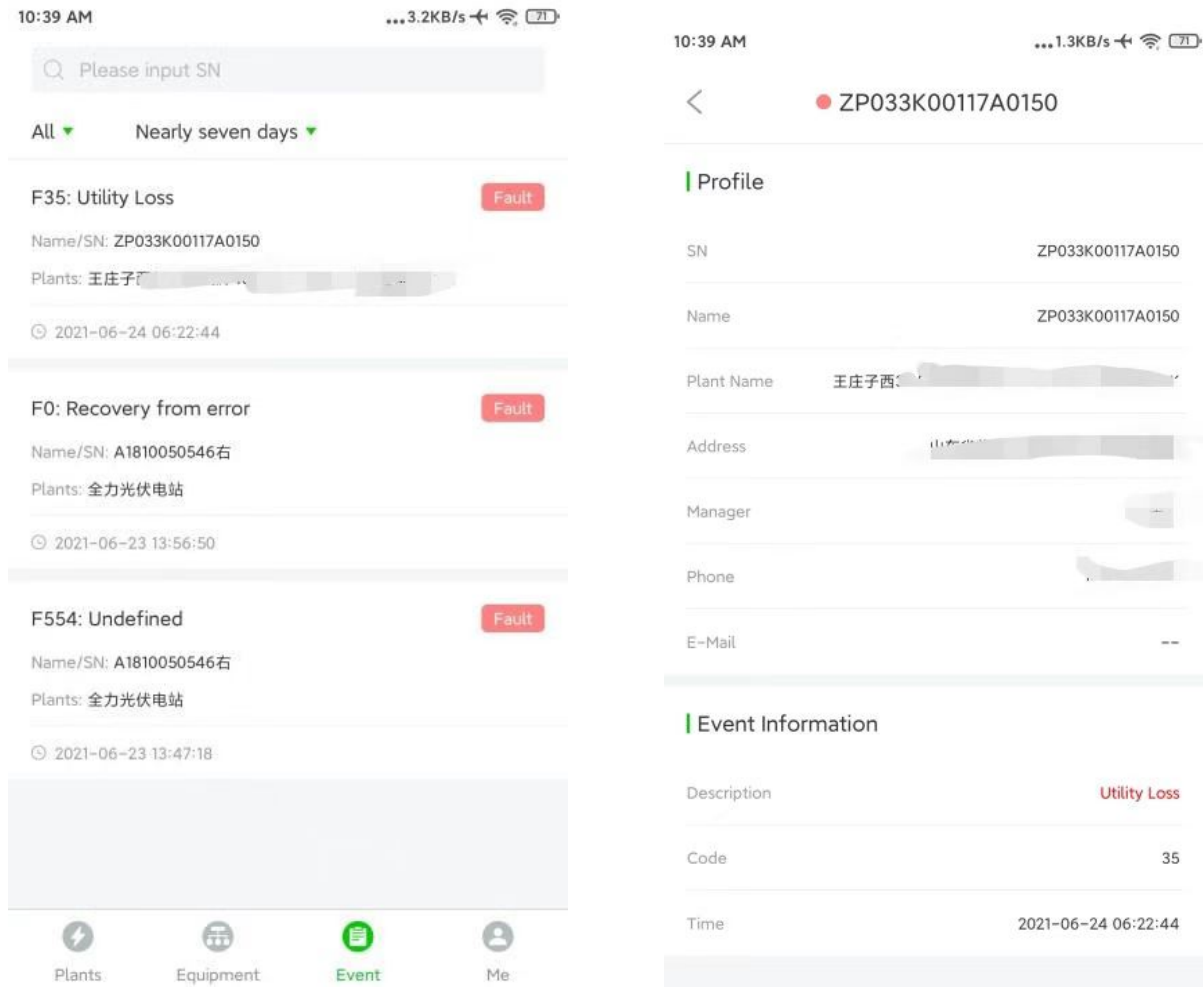

Figure 8-1 Event information
1. Click the "Event" button at the bottom to query the event list. Click an event to view the event information, as shown in Figure 8-1.